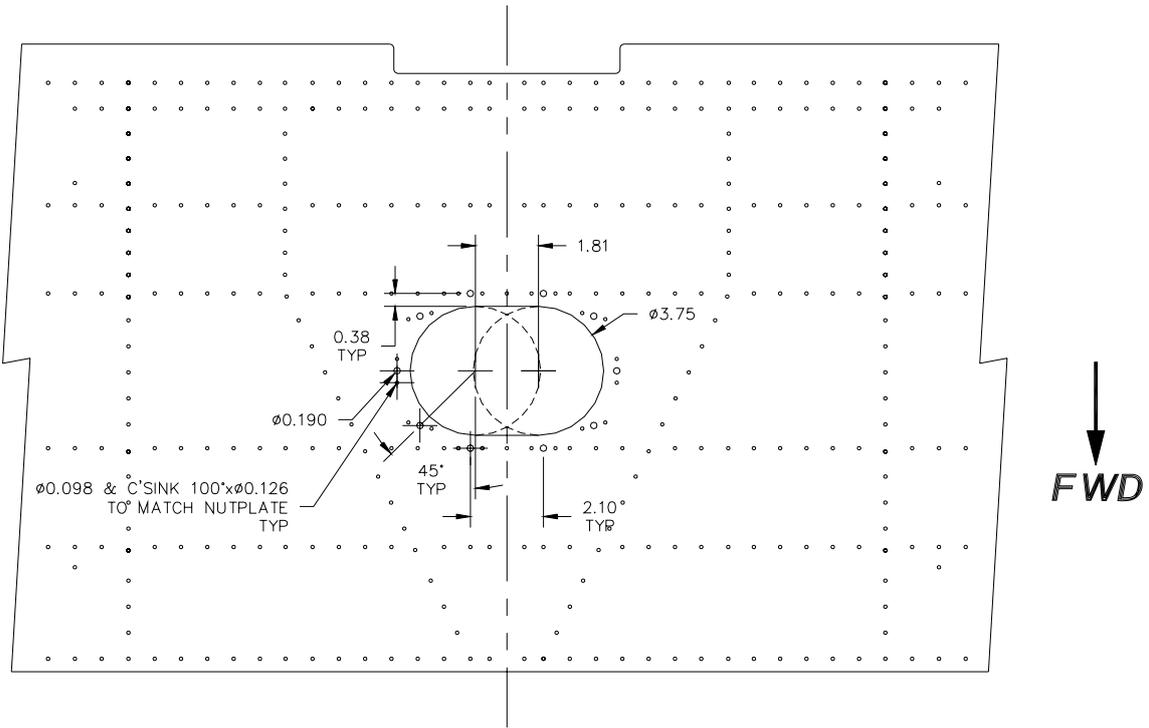

Figure 3
4. Cut an access hole as per Figure 3, attach anchor nuts as per Figure 4.